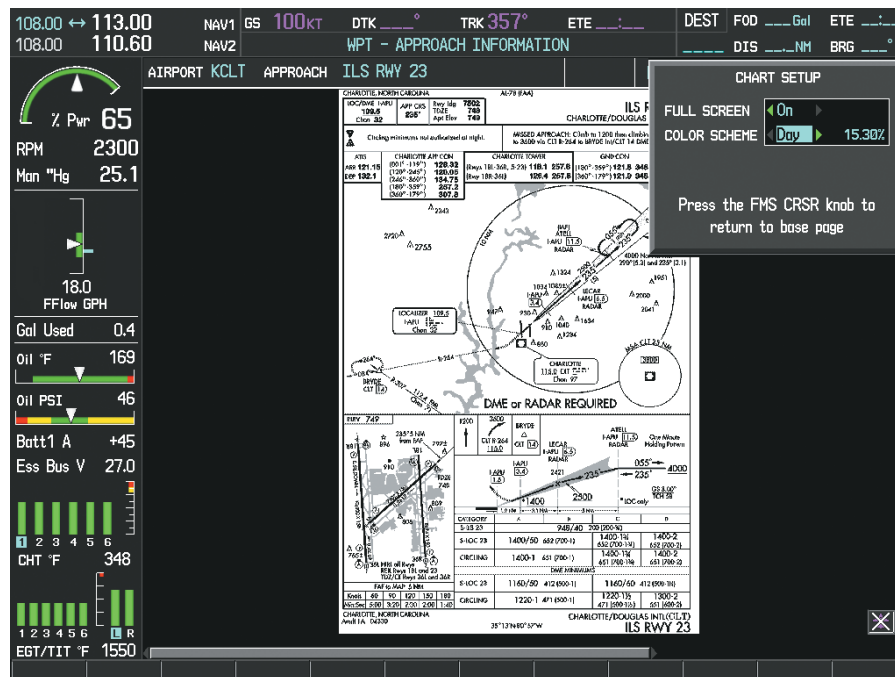

Figure 8-70 Approach Information Page, Day View
- 3) Turn the large **FMS** Knob to move to the COLOR SCHEME Option (Figure 8-70).